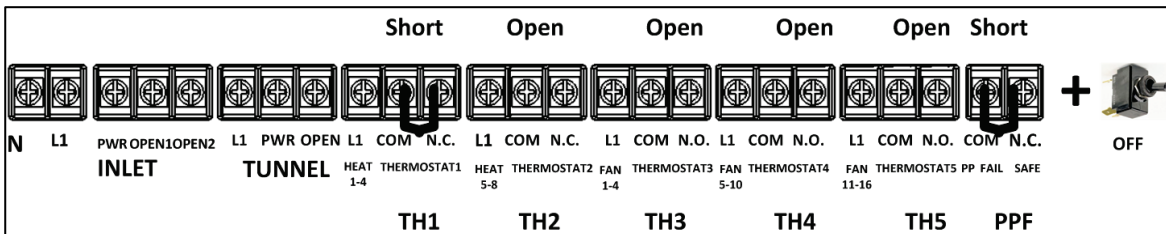

Figure 11: Shorting the unit
*NOTE* Figure 11 is an example only. The number of holes in each installation depends on the number of cables being run.